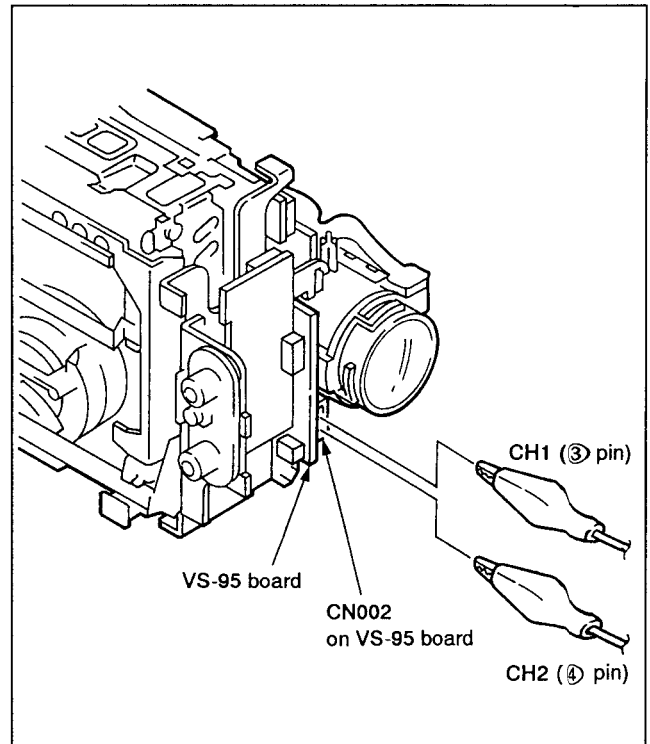

Fig. 8-1.
- 4) Check that the RF waveform of the oscilloscope is flat at both inlet and outlet side. (Refer to Fig. 8-1 and 8-2)